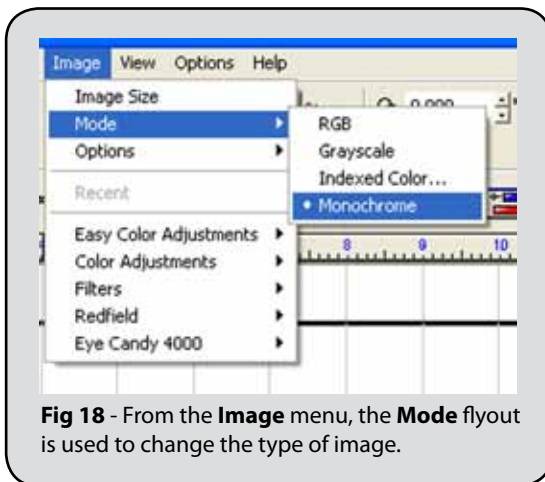

Fig 18 - From the **Image** menu, the **Mode** flyout is used to change the type of image.
2. Choose **Image** menu >> **Mode** >> **Monochrome**. (Fig. 18)